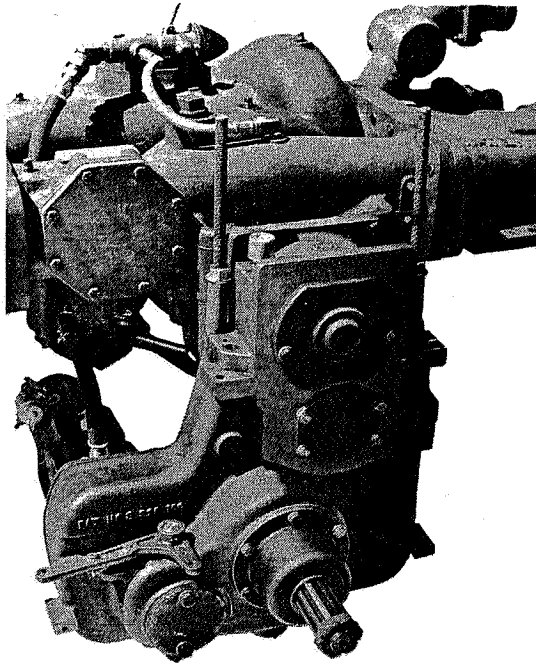

Fig. 2 Threaded Rods Installed for Removing M Series Transmission
- Figure 2 Threaded Rods Installed for Removing M Series Transmission
1. Remove transmission as directed in transmission overhaul instructions. (Sections 4301 thru 4306.) The M or Y series transmission cap is left attached to the pump impeller shaft. (See Fig. 2.)